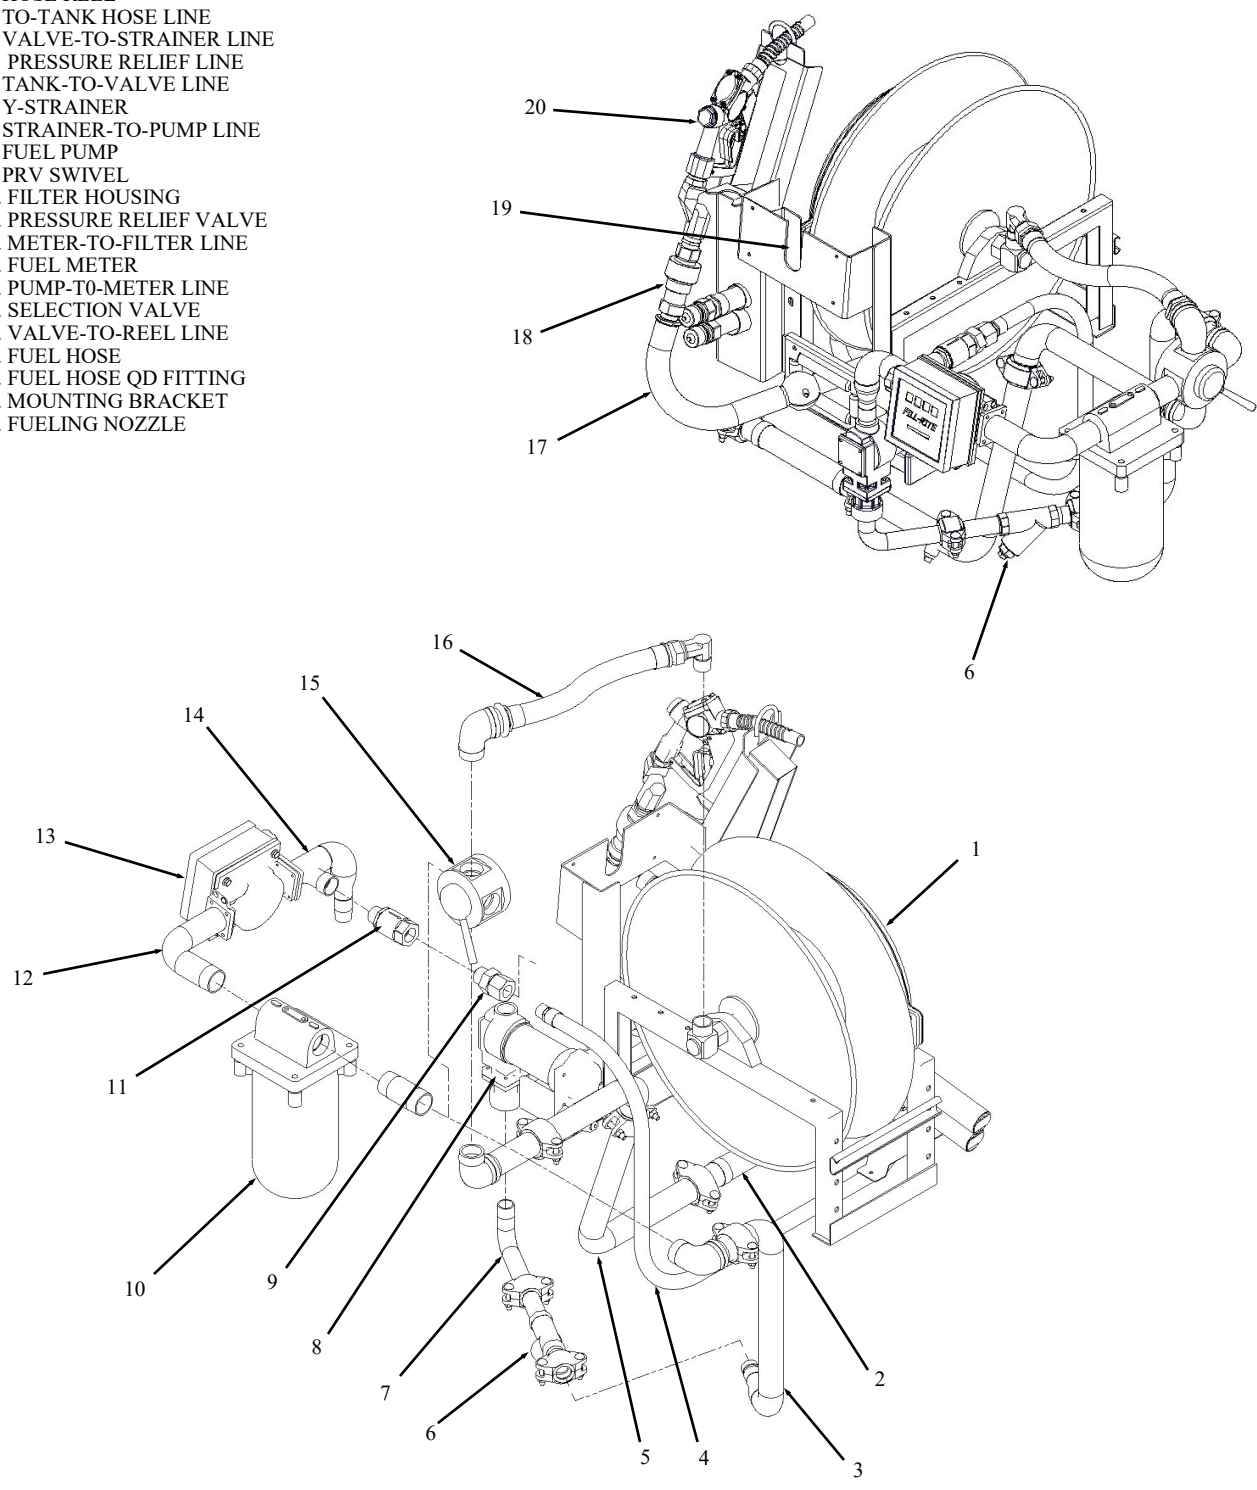

Figure 5-12a. Plumbing Assembly Fill-Rite Pump/Meter (Model AGEXXX-12VDC)
5.3.6 Plumbing Assembly. The Plumbing Assembly is located at the rear of the unit. The assembly consists of a fuel pump (See Paragraph 5.3.6.1), a fuel meter (See Paragraph 5.3.6.2), a filter housing (See Paragraph 5.3.6.3), a selection valve (See Paragraph 5.3.6.4), a hose reel (See Paragraph 5.3.6.5), and several plumbing lines, hoses, and other plumbing items (See Paragraph 5.3.6.6). Paragraph 5.3.6.7 describes how to change the fuel filter element. Use Figure 5-12a, 5-12b or 5-12c for the maintenance steps described in 5.3.6.1 through 5.3.6.5.